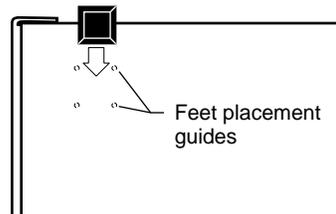

Figure 2-2. Attaching Feet
1. **Peel off the protective backing from the rubber feet and apply one at each marked location on the bottom of the Model 2800A (see Figure 2-2).**